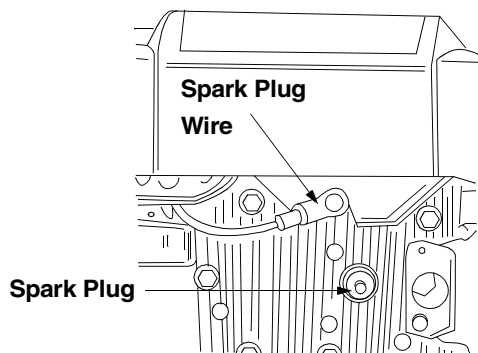

Figure 2
- Before setting up your lawn mower, disconnect the spark plug wire from the spark plug and ground against the engine. See Figure 2.